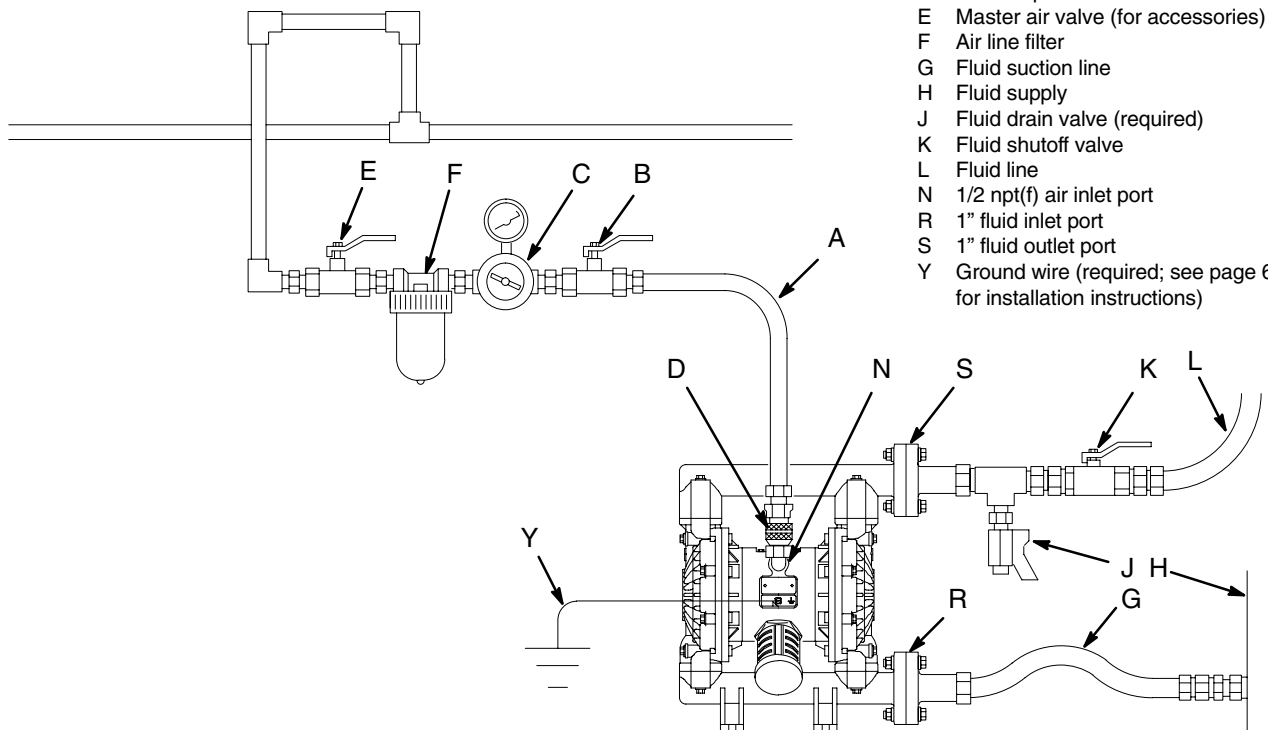

Fig. 2
- The Typical Installation shown in Fig. 2 is only a guide for selecting and installing system components. Contact your Graco distributor for assistance in planning a system to suit your needs.
The polypropylene and PVDF pumps are not conductive. Attaching the ground wire to the grounding screw will ground only the air motor. When pumping conductive flammable fluids, **always** ground the entire fluid system by making sure the fluid system has an electrical path to a true earth ground (see Fig. 2). **Never** use a polypropylene or PVDF pump with non-conductive flammable fluids as specified by your local fire protection code.
NOTE: When pumping conductive flammable fluids with a polypropylene or PVDF pump, **always** ground the entire fluid system. See the **WARNING** left. Fig. 2 shows a recommended method of grounding flammable fluid containers during filling. This is only a guide; contact your Graco distributor for assistance in grounding your system.
A bleed-type master air valve (B) is required in your system to relieve air trapped between this valve and the pump. Trapped air can cause the pump to cycle unexpectedly, which could result in serious injury, including splashing in the eyes or on the skin, injury from moving parts, or contamination from hazardous fluids. See Fig. 2.
1. Install the air line accessories as shown in Fig. 2. Mount these accessories on the wall or on a bracket. Be sure the air line supplying the accessories is grounded.
- a. Install an air regulator (C) and gauge to control the fluid pressure. The fluid outlet pressure will be the same as the setting of the air regulator.
- b. Locate one bleed-type master air valve (B) close to the pump and use it to relieve trapped air. See the **WARNING** at left. Locate the other master air valve (E) upstream from all air line accessories and use it to isolate them during cleaning and repair.
- c. The air line filter (F) removes harmful dirt and moisture from the compressed air supply.
2. Install a grounded, flexible air hose (A) between the accessories and the 1/2 npt(f) pump air inlet (N). See Fig. 2. Use a minimum 3/8" (10 mm) ID air hose. Screw an air line quick disconnect coupler (D) onto the end of the air hose (A), and screw the mating fitting into the pump air inlet snugly. Do not connect the coupler (D) to the fitting until you are ready to operate the pump.
A fluid drain valve (J) is required to relieve pressure in the hose if it is plugged. The drain valve reduces the risk of serious injury, including splashing in the eyes or on the skin, or contamination from hazardous fluids when relieving pressure. Install the valve close to the pump fluid outlet. See Fig. 2.
1. **Use grounded fluid hoses (L).** The pump fluid outlet (S) is a 1" raised face flange. Refer to **Flange Connections** on page 9.
2. Install a fluid drain valve (J) near the fluid outlet. See the **WARNING** above.
3. Install a shutoff valve (K) in the fluid outlet line.